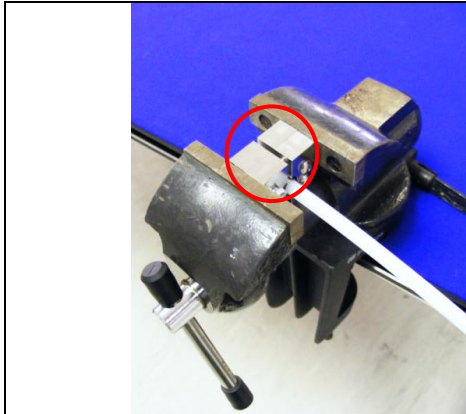

Figure 7: Putting the crimper into the vice
- 8 Put the crimp tooling into a vice and tighten as much as possible. The two blocks of the crimp tool, shown in the red circle, must touch in order to get a satisfactory crimp (Figure 7).